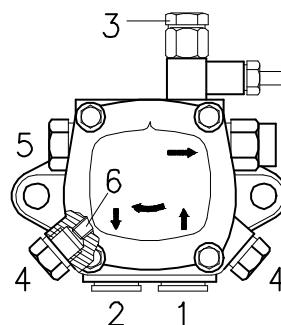

Fig. 18
## 7.3 Pump (Fig. 18)
- In order for self-priming to take place, one of the screws 3) (Fig. 18) of the pump must be loosened in order to bleed off the air contained in the suction line.
In order to adjust pump pressure, use the relevant screw 5) (Fig. 18 pag. 17)